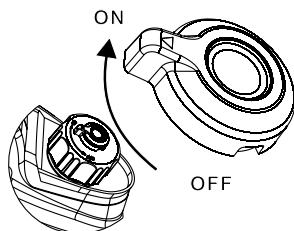

Figure 6: fuel tank vent - iGen2200 only
2. Turn the fuel tank vent to the **ON** position (iGen2200 only) (see Figure 6).